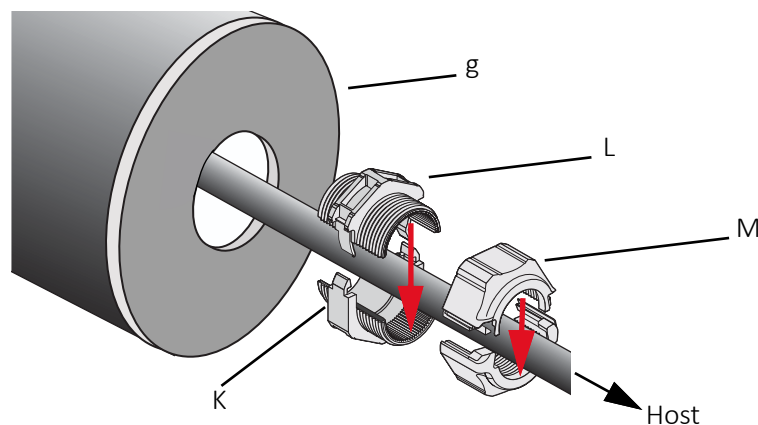

Figure 10: Mounting the Double Nipple (L) and the Pressure Screw (M)
25. With the sealing (K) facing the Back Plate (g), close the sides of the split Double Nipple (L) around the cable(s) until the sides join with a click. See Figure 10.
26. Close the sides of the split Pressure Screw (M) around the cable(s) until the sides join with a click.